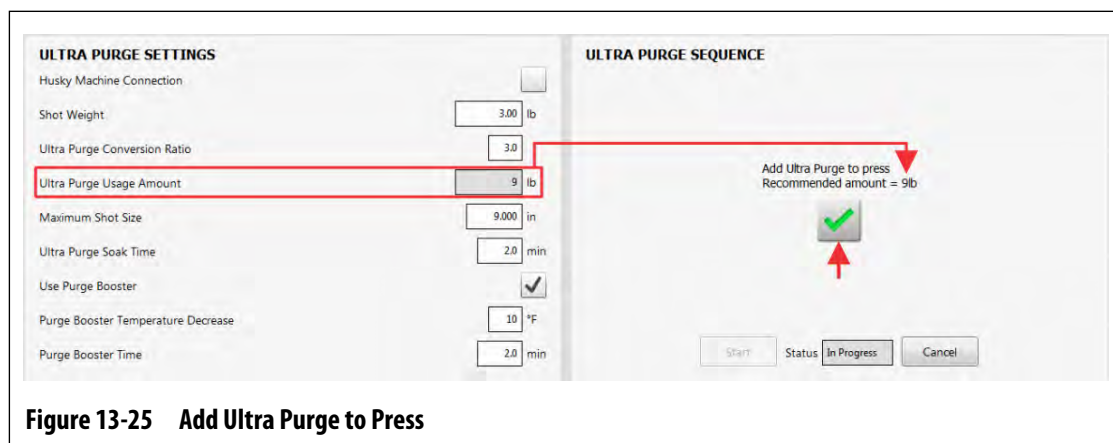

Figure 13-25 Add Ultra Purge to Press
- Add the recommended amount of Ultra Purge compound to the IMM (refer to Figure 13-25).